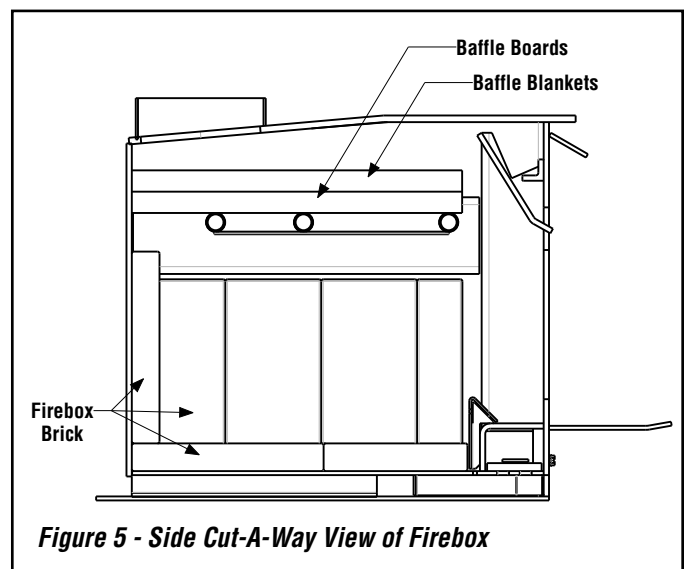

Figure 5 - Side Cut-A-Way View of Firebox
2. Install the baffle boards. All baffle boards included are the same size. Start by inserting the boards sideways between the front and middle tubes, then rotate pieces so the long side is going from the back of the unit to the front of the unit. Then slide the pieces left-to-right individually until all pieces fit between the left and right sides of the firebox flush above the tubes, making sure there is no gap at the back of the firebox **Figure 5**.